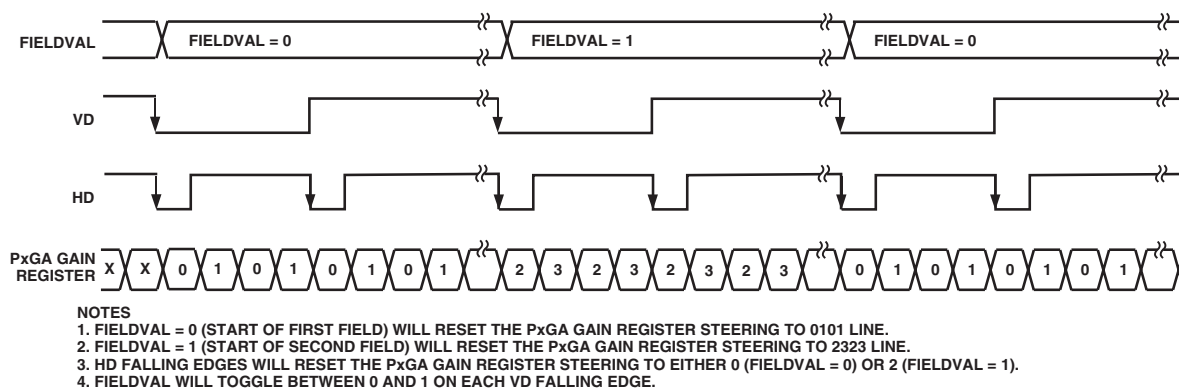

Figure 18b. PxGA Color Steering—Interlaced Mode
The same Bayer pattern can also be interlaced, and the interlaced mode should be used with this type of CCD (see Figure 17b). The color steering performs the proper multiplexing of the R, G, and B gain values (loaded into the PxGA gain registers), and is synchronized by the user with vertical (VD) and horizontal (HD) sync pulses. For timing information, see Figure 18b.